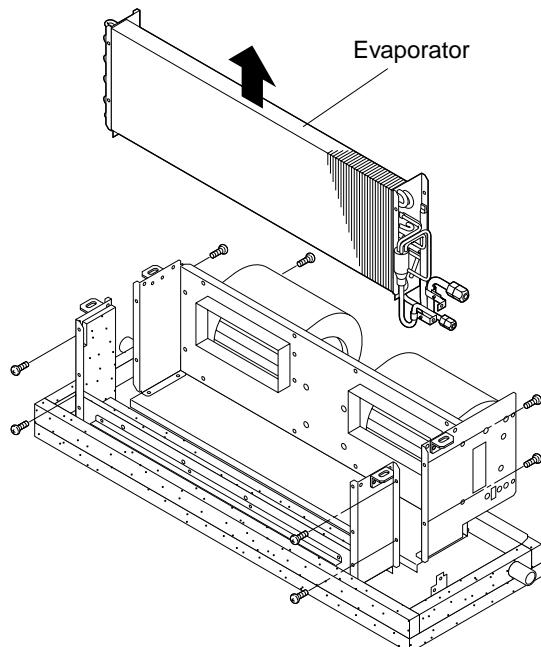

Fig. 3
(3) Remove 8 screws holding the evaporator. (Fig. 3)
(4) Lift the evaporator up out of the unit. (Fig. 3)